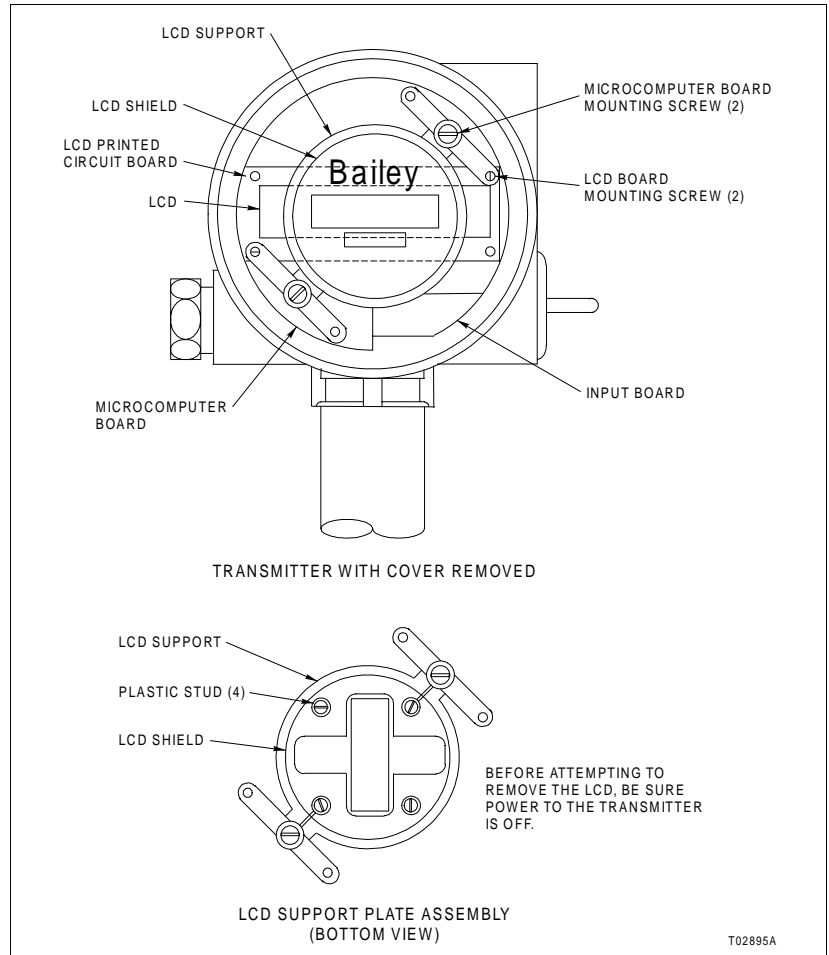

Figure 3-4. Removing the Optional LCD Assembly
3. Remove the two screws holding the LCD support plate to the microcomputer board (Figure 3-4).